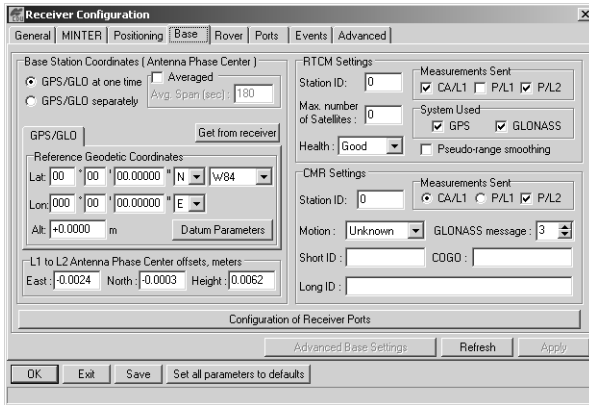

Figure 3-8. Base Configuration
9. Select the **Base** tab, set the following parameters (Figure 3-8 on page 3-12), and click **Apply**: